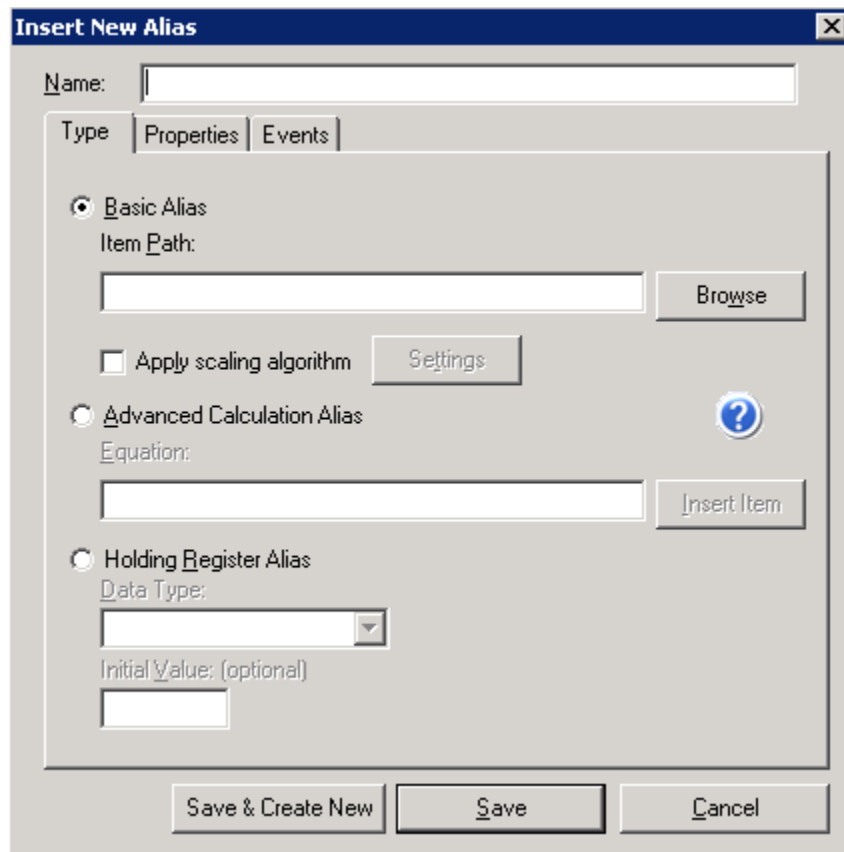

Figure 39 - Insert New Alias Window – Alias Type
Use the **Insert New Alias** window (Figure 39) to insert a new alias into an Alias Group, or insert a new alias on its own directly under the Alias Configuration node.
4. The **Insert New Alias** window (Figure 39) appears.
Note: Aliases can be edited after they have been created using the **Edit Alias** window. This is virtually the same as the **Insert New Alias** window (Figure 39) with the exception that it appears after the alias has been created.